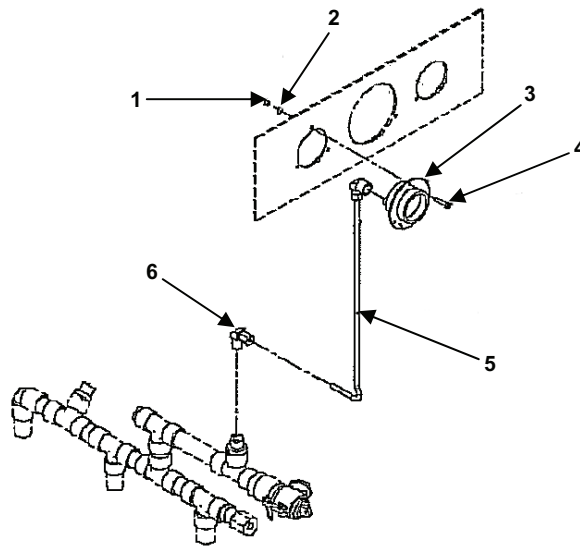

Figure 3. Feed Pressure Gauge.
1. Remove screws (Figure 3, item 4), nuts (Figure 3, item 1) and washers (Figure 3, item 2) from gauge (Figure 3, item 3).
2. Remove tubing (Figure 3, item 5) from gauge (Figure 3, item 3).
4. Remove elbows (Figure 3, item 6) only if necessary.